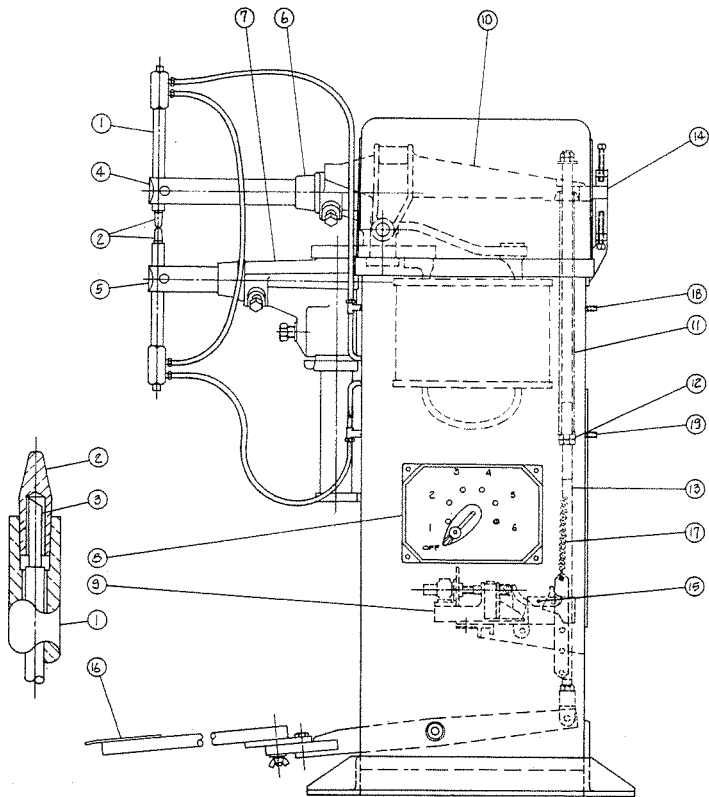

Fig. 2
Refer to Figure 2, Page 7, for location of parts identified herein by numbers in parentheses.
- B. Connect water inlet (19) and water drain (20) and connect hoses to tip holders as shown in Fig. 2, Page 7.